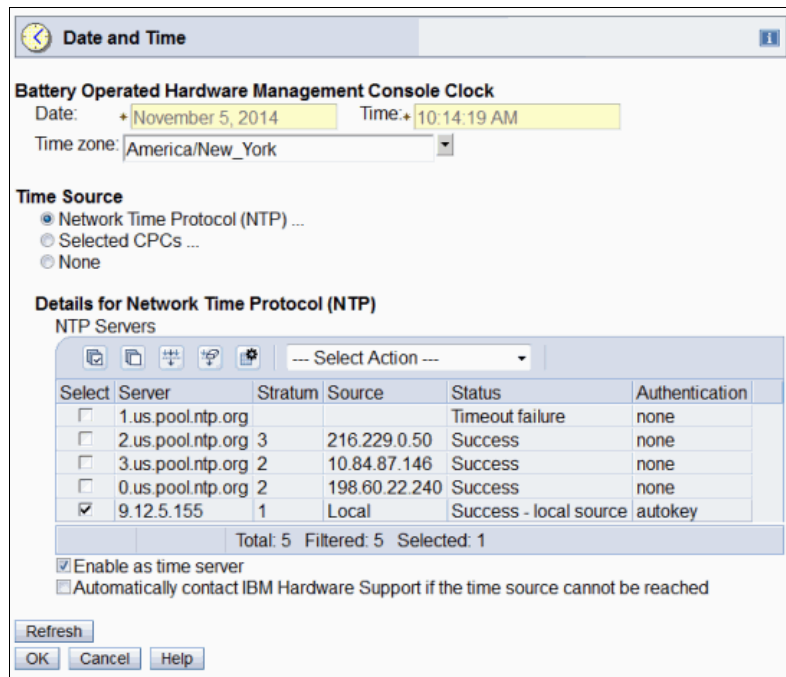

Figure 9-26 HMC: Customize Console Date and Time Successfully editing NTP server with Autokey
- Return to the Configure NTP Setting window. Make sure that autokey is listed in the Authentication column, and its status is Success (Figure 9-26).